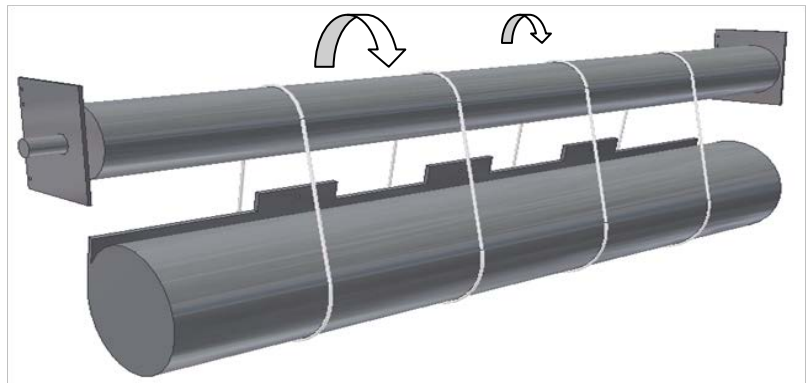

Figure 8.2 - Slings the Curtain
6. Lift the coil until it is just below the shaft. Using appropriately rated ropes or straps, sling the coil from the shaft as shown in **Figure 8.2**. Remove the plastic strapping securing the coil at this point.